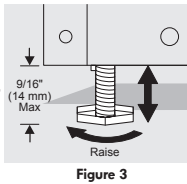

Figure 3
- Use adjustable wrench to adjust leveling screws. Lower the leveling screws on each side clockwise until they contact the floor (Figure 3).